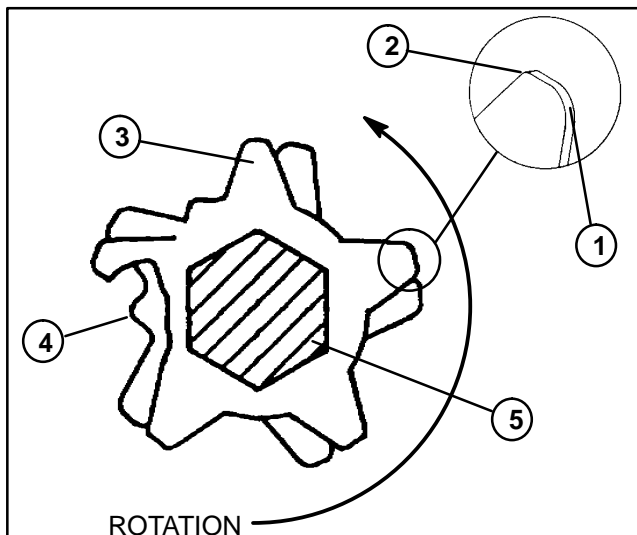

Figure 8
Inspect grooming reel blades frequently for damage and wear. Straighten bent blades with a pliers. Either replace worn blades or reverse the grooming reel shaft to put the sharpest blade edge forward (Fig. 8).
2. Rotate location mark on each blade one flat of the shaft, either in a clockwise or counterclockwise direction. The direction of rotation must remain constant on the shaft (Fig. 8).